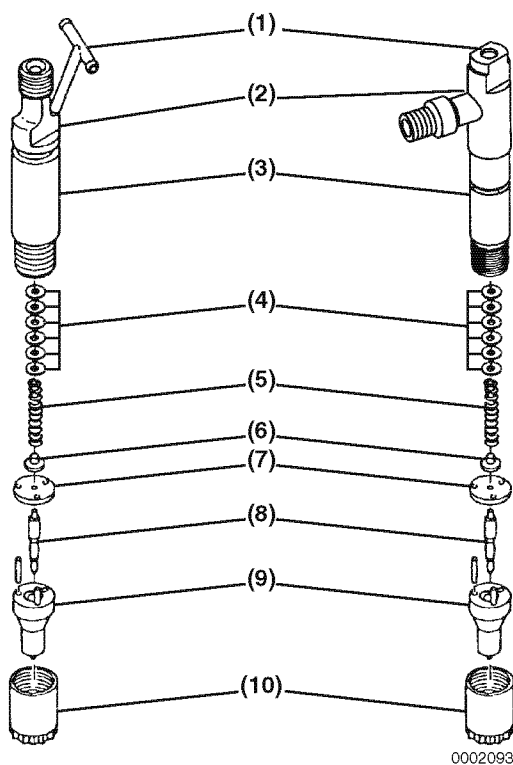

Figure 6-89
The fuel injectors open when pressure reaches a predetermined pressure threshold. They close when the pressure is reduced below that threshold. The pressure threshold can be adjusted by adding or removing shims (**Figure 6-89, (4)**).